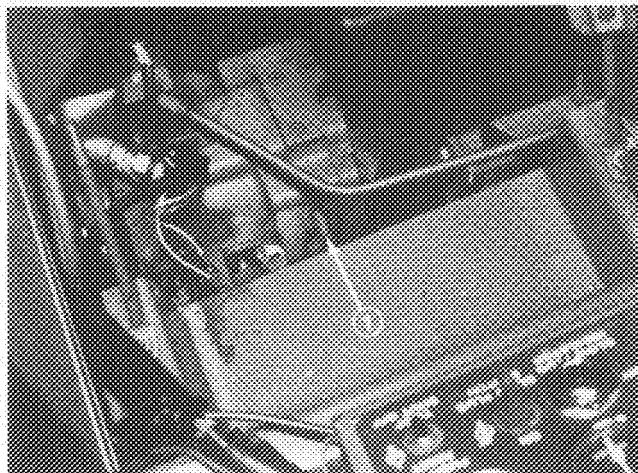

Figure 29
1. Reach under traction unit and rotate by-pass valve (Fig. 29) 1/2 to 1 turn counterclockwise. Opening the valve opens an internal passage in the transmission, thereby bypassing transmission oil. Because fluid is by-passed, traction unit can be moved without damaging the transmission.